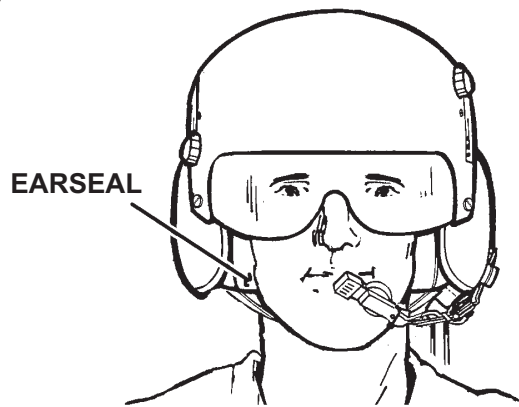

Figure 2-16. Earseal
- Adjust the earcups so that they cover the wearer's ears. If earcup pressure is too great without fitting pads, select the next larger helmet size. Check the earseal compression; earseals (Figure 2-16) should be compressed evenly and to the greatest degree possible without causing discomfort. Proper earseal compression may be indicated by a visible ring impression around the ear when the helmet is removed. If no ring is visible, check carefully to see that none of the ear is pinched under the earseal. Always ask the wearer if the ear is centered in the earcup.